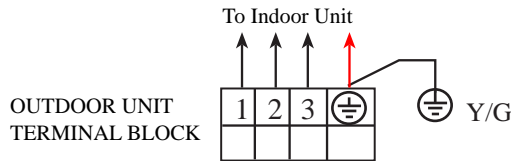
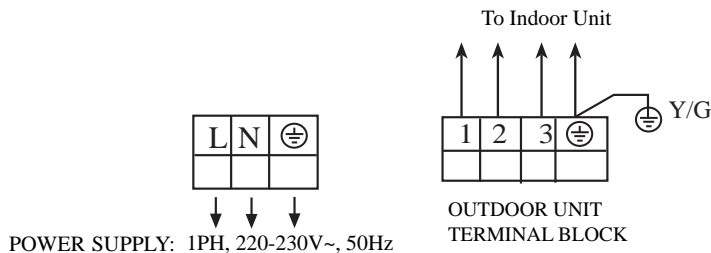
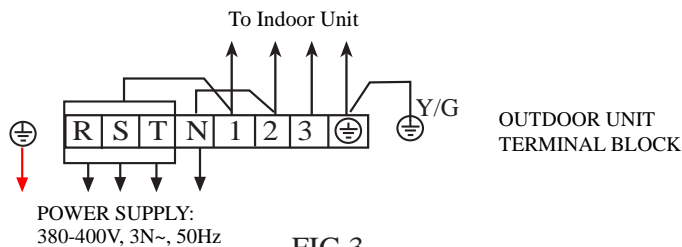

FIG.1
FIG.2
FIG.3
DO NOT CONNECT THE NEUTRAL WIRE (N) TO (R), (S) OR (T) PHASE. INTERCONNECTING WIRES MUST BE WIRED ACCORDING TO FIG.1 FIG.2 FIG.3. INCORRECT WIRING CAUSE EQUIPMENT DAMAGE.
(3) Wiring procedure